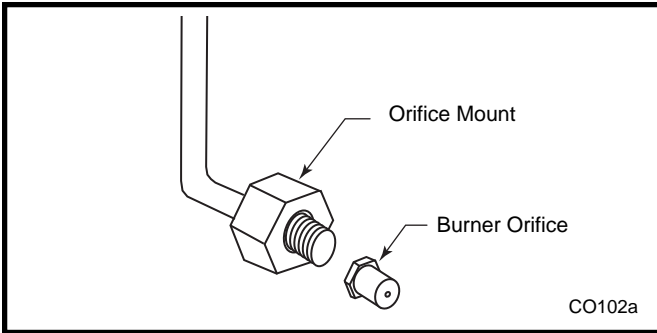

Fig. 3 Remove burner orifice and replace with conversion orifice.
7. Using the 3/4" wrench to hold the orifice mount, remove the orifice with the 1/2" wrench. (Fig. 3)